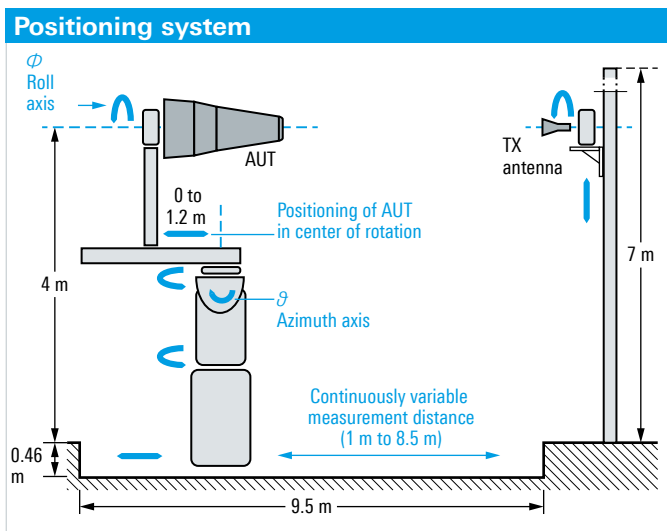

Fig. 1: Eight-axis positioning system in new antenna test chamber at Rohde&Schwarz Memmingen plant.
Fig. 1 shows the simplicity of the test setup. The R&S®BTC handles all of the functions needed to generate the necessary signal scenarios and analyze the output signal. Only the following components are needed to perform fully automated tests (even unattended): an adaptive remote control device (RedRat3-II), a remotely switchable power supply (NET8212), and a PC for configuring and controlling the tests. The remote control device is used to control the channel switching as required by the test software; the switchable power supply allows a DUT to be restarted in case it crashes or fails to respond (which is detected by the system) so the test can resume from the point of interruption. R&S®AVBrun is the Windows software used for test automation with the R&S®BTC. It is
(already tried and tested with second-generation TV standards) in combination with robust OFDM modulation. LDPC error protection is so effective that even constellations such as 4096QAM can be used with DOCSIS 3.1 – something that was hardly conceivable in the past. DOCSIS 3.1 uses channel bandwidths of 192 MHz in the downstream and 96 MHz in the upstream; however, scaling is possible if necessary. This, in fact, is the benefit of OFDM modulation: It provides the flexibility to adapt the signal bandwidth to a given network’s specific characteristics. However, since OFDM and LDPC together do not yet achieve the desired increase in data throughput, the frequency ranges have also been redefined in DOCSIS 3.1 (Fig. 1). The upper limit will be raised in two stages: first to 1218 MHz and then to 1794 MHz. In this case too, the error protection is expected to compensate for the cable’s poor transmission characteristics at higher frequencies. The upstream will be extended to 5 MHz to 204 MHz. As a result of these measures, DOCSIS 3.1 is expected to support
Fig. 1: ① Typical loading of cable TV networks with analog and digital channels up to 1002 MHz. ② Extension up to 1218 MHz with DOCSIS 3.1. ③ Final expansion with upstream up to 204 MHz and downstream up to 1794 MHz.
The broad Rohde&Schwarz antenna portfolio includes products of all sizes and weights for applications from the AF to the GHz range. This calls for a correspondingly versatile test system. A universal test system is required to cover antennas with both low and high directivity. This is best achieved with a system that performs spherical measurements, i.e. that collects measurement data over the surface of a sphere. The challenge is the measurement distance required in each case. For example, a parabolic antenna with a diameter of 3 m requires a far-field measurement distance of 2 km at an 18 GHz measurement frequency. Applying the rule of thumb of  $4D^2/\lambda$ , this distance may produce a phase error of up to  $11.25^\circ$ . This contrasts with the Rohde&Schwarz antenna performance specifications, which require a DF accuracy of  $1^\circ$  to  $2^\circ$ . The approach to solving this problem is to transform near-field measurement data into far-field data. To be able to measure both under near-field and far-field conditions, Rohde&Schwarz decided in favor of a flexible eight-axis positioning system from ACC (Fig. 1) that allows continuous adjustment of the